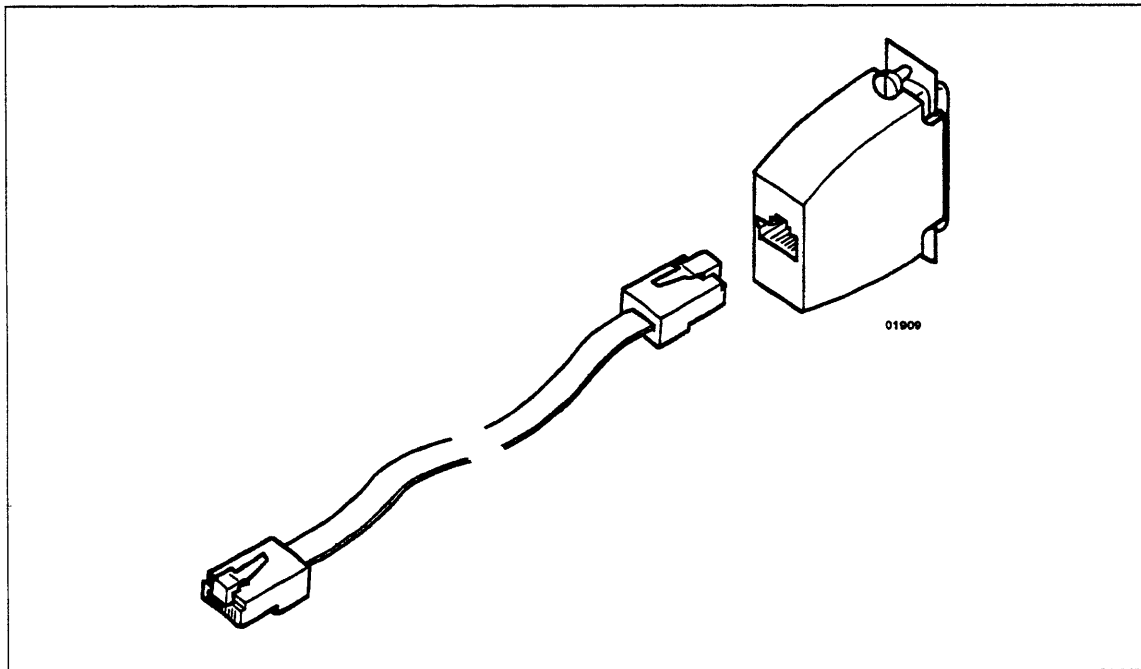
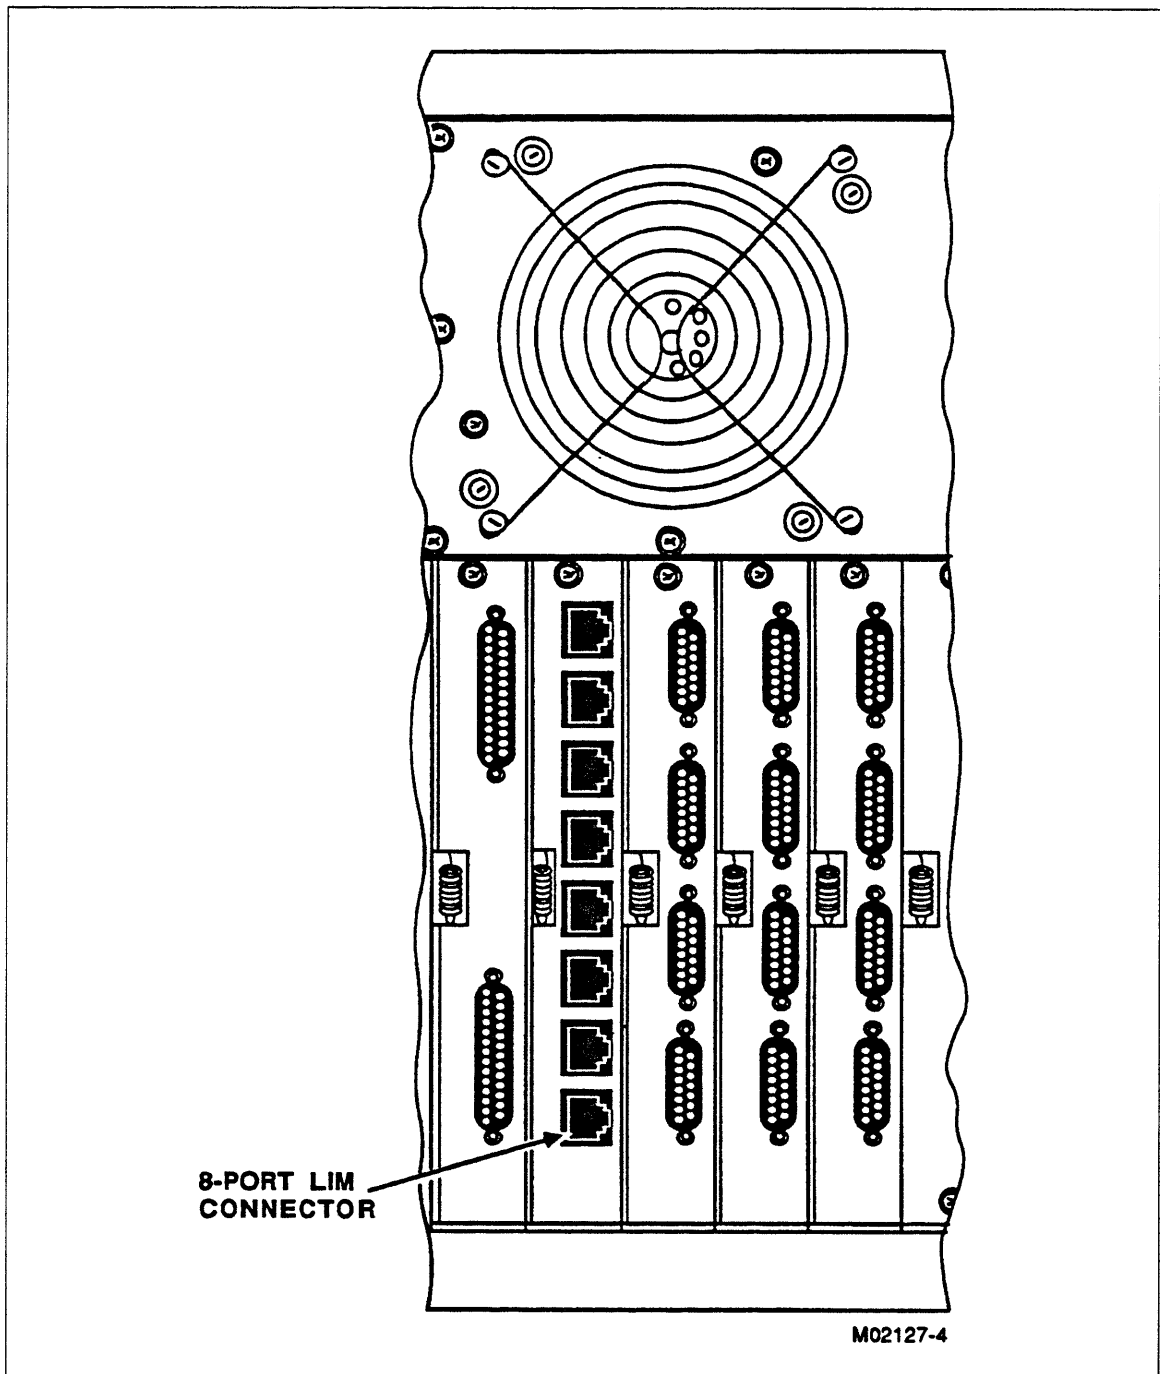

Figure 3-59. DY267, 8-Port LIM Cables (YA333-x) and Modular Adapter (YA324-x)
Figure 3-60. Installing RS-232, 8-Port LIM Port Connectors
1. Connect the cable(s) (figure 3-59) to the LIM (figure 3-60).
2. Tag and connect the cables to the appropriate modular adapter (figure 3-59). Connect the modular adapter to the terminal device. Refer to the specific terminal or printer manual for instructions on connecting cables to the terminal or printer.